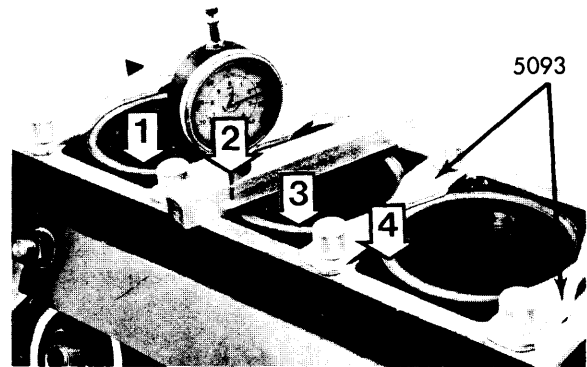

Fig. 10 Checking Liner Height Above Block Face
6) After shimming, install four liner holders (5093) for each bank. Again measure each liner at three points. Largest and smallest dimensions should be within .002" (.05 mm). Measure three liners at points shown in Fig. 10. Difference in measurements between points "1" and "2" and between "3" and "4" should not exceed .0016" (.04 mm). If height difference is excessive, change shims.